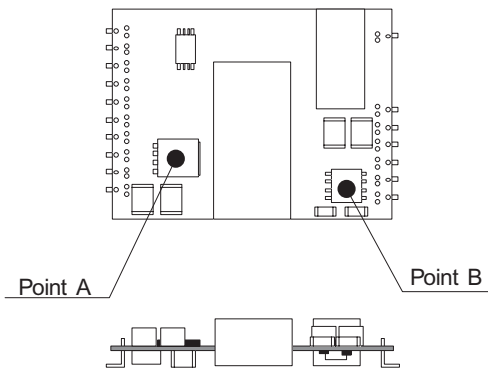

Fig.8.1 Location of point A and B
- In case of forced air, ventilation must keep the temperature of point A and B below 120°C. Refer to Fig.8.1 for the location of point A and B.